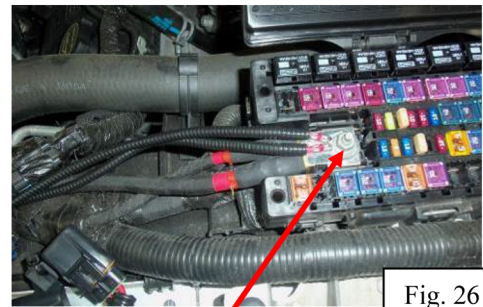

Fig. 26
25. Open the fuse box and remove the 10mm nut holding the main power wires to the fuse box. Attach both power leads from the wire harness to the main wire lead of the fuse and tighten the 10mm nut (Fig. 26).